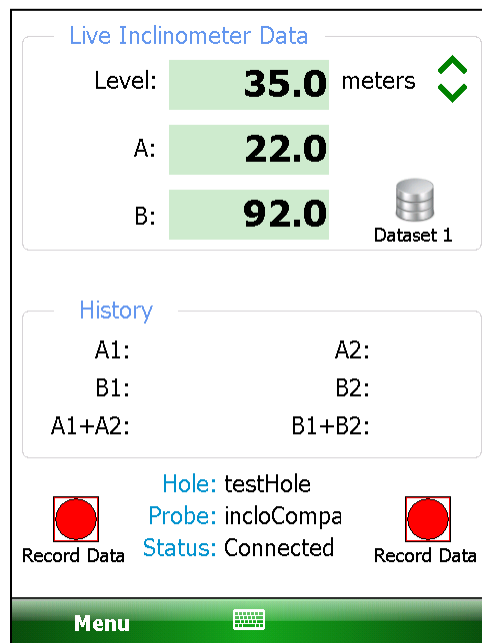

Figure 15 - Live Readings Screen
- 12) After few seconds, the blue light on the Remote Module should change to a steady state blue (lit but not flashing) and the Live Readings Window will be displayed (Figure 15).